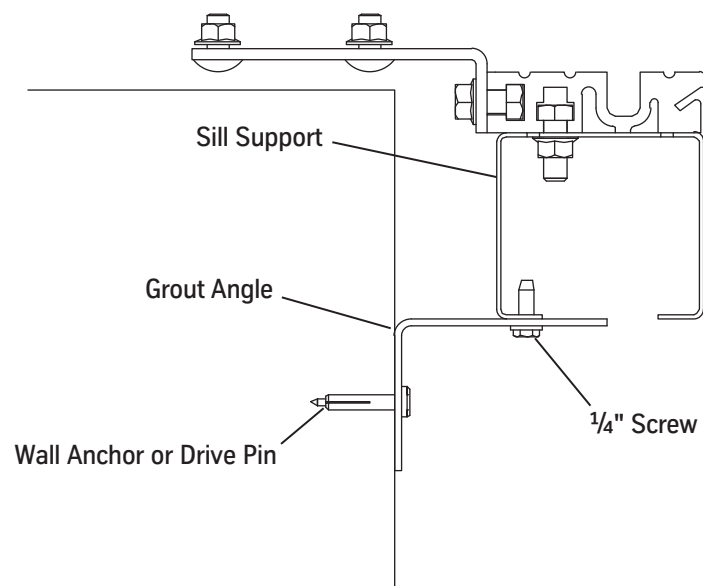

Figure 9 - Grout Angle Installation
1. Use self-tapping screws to install the grout angle on the bottom of the sill support and also tight against the hoistway wall. See Figure 9.